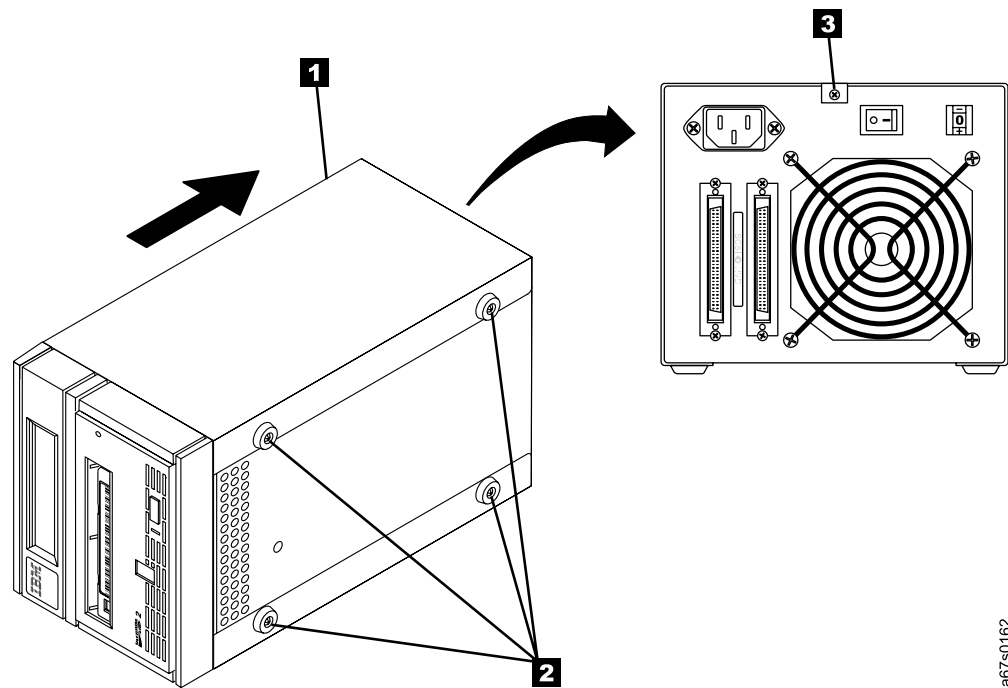

Figure 27. Removing the cover from the 3580 Ultrium 2 Tape Drive
1. Remove the cover (see **1** in Figure 27) of the 3580 Ultrium 2 Tape Drive by performing the following steps: